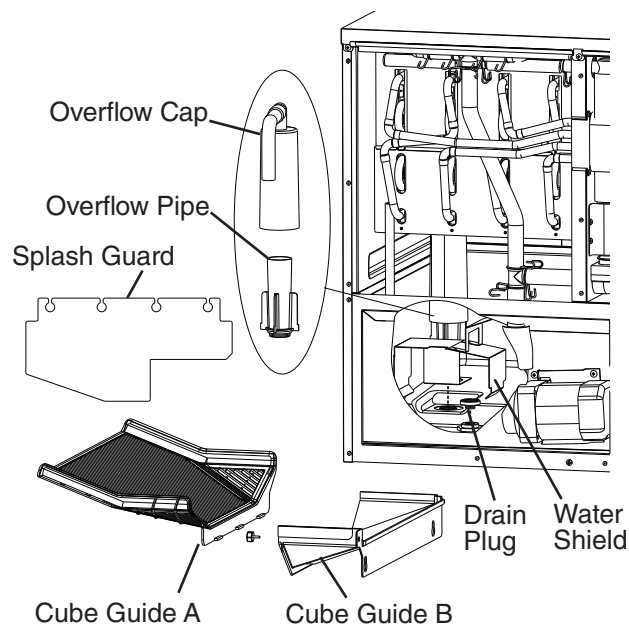

Fig. 4
- 3) Remove the insulation panel. Remove the splash guard, then remove cube guide B, and cube guide A. See Fig. 4. Remove overflow cap, overflow pipe, and water shield.
- 3) Remove the insulation panel. Remove the splash guard, then remove cube guide B, and cube guide A. See Fig. 4. Remove the overflow cap, overflow pipe, and water shield.